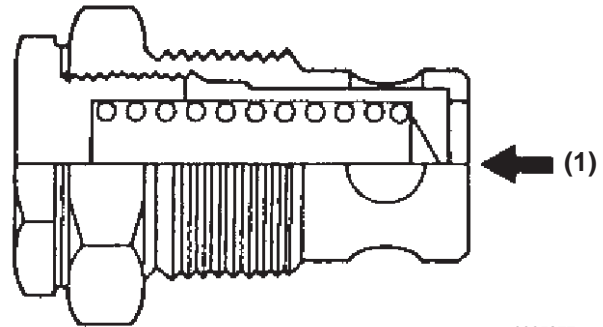

Figure 8-25
1. Inspect the relief valve by pressing (**Figure 8-25, (1)**) the valve with a wooden stick to check for sticking. If the valve sticks, replace the relief valve.